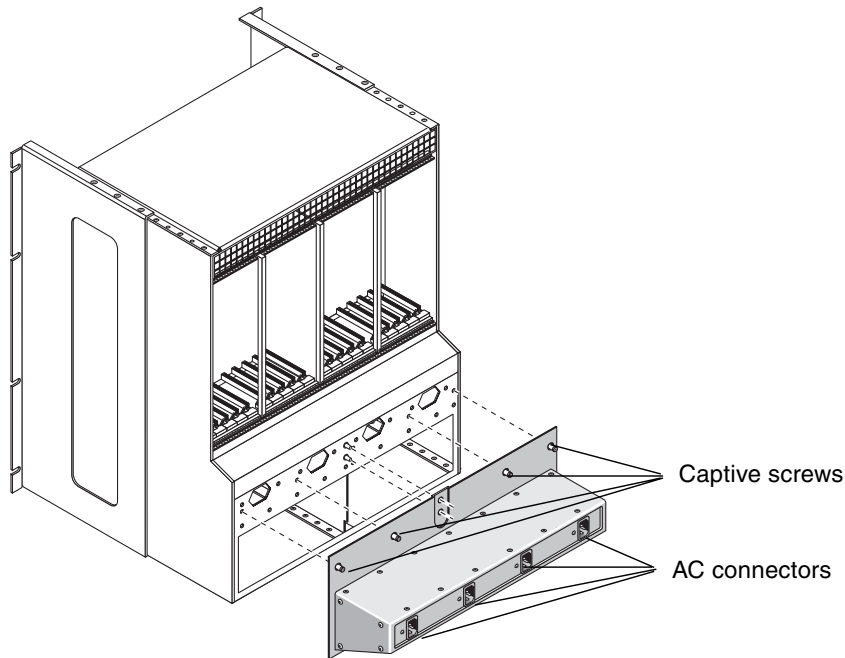

FIGURE 10-9 AC Connectors on a Netra CT Chassis
FIGURE 10-9 shows the locations of the AC connectors at the rear of the chassis.
FIGURE 10-9 shows the locations of the four captive screws at the rear of the chassis.
3. Tighten the four captive screws to secure the AC power entry unit to the chassis (FIGURE 10-9).
4. Plug all the AC cables into the AC connectors at the rear of the chassis (FIGURE 10-9).